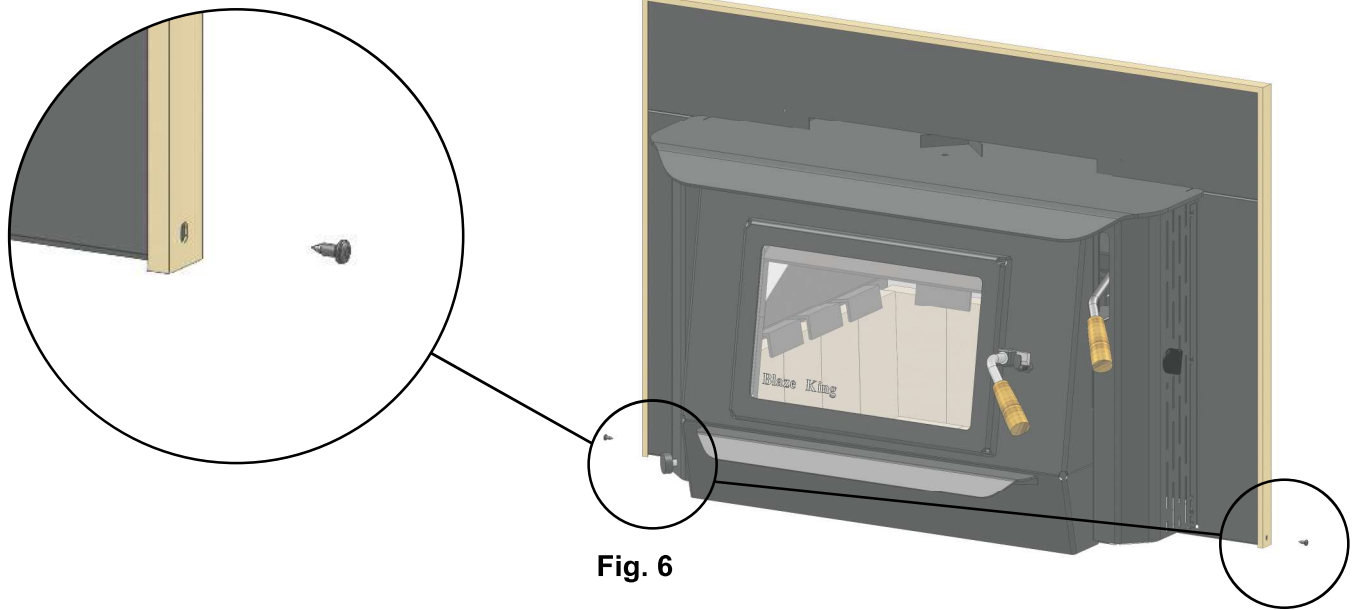

Fig. 6
8. Secure the trim in place with 2 #10-sheet metal screws provided (see **Fig. 6**).